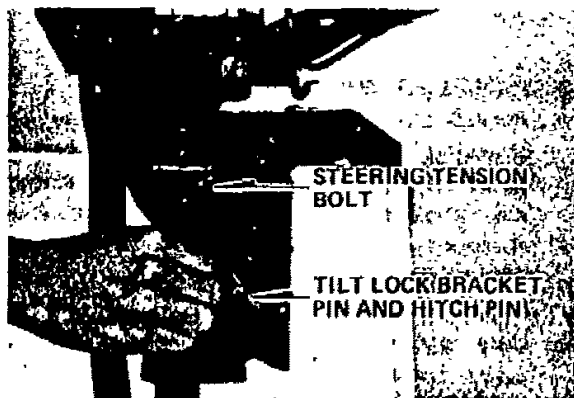

Figure 6
- c. The angle of the motor column is easily adjusted by removing the Hitch Pin and changing the Tilt Lock Bracket Pin in the five (5) different angle position holes located on either side of the right or left Transom Mounting Brackets. Each angle position elevates five (5) degrees. Try center hole position first. (See Figure 6).
Tighten steering tension bolt using a spanner for desired steering effort. (See Figure 6).